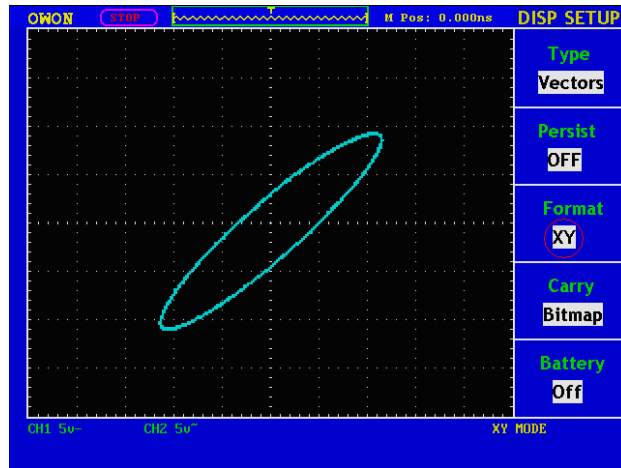

Fig.60 Display in XY Format
3. Press **F1** to set Vectors as type, **F2** to set Infinite for persist and **F3** to set XY as Format as shown as **Fig.60**.